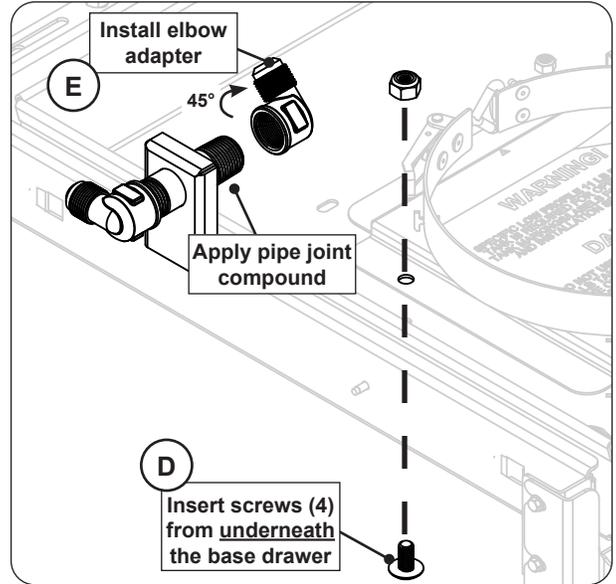

Fig. 2-1 Install L.P. tank bracket
6. Insert the one screw into each pilot hole from underneath the base drawer. Secure the L.P. tank bracket using the supplied nuts. See Fig. 2-1, D.
8. Install the elbow adapter. The elbow flare adapter **must be installed at a 45° facing rearward and up**. See Fig. 2-1, E.